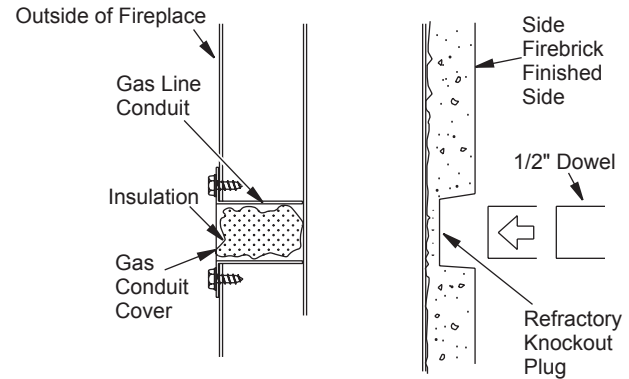

Figure 29 - Gas Line Knockout
1. Remove knockout indentation on refractory or firebrick wall located approximately 2" above the refractory hearth floor. The knockout indentation must be firmly tapped with any solid object such as a 1/2" dowel until it is released. Remove fragmented portions of refractory (see Figure 29).